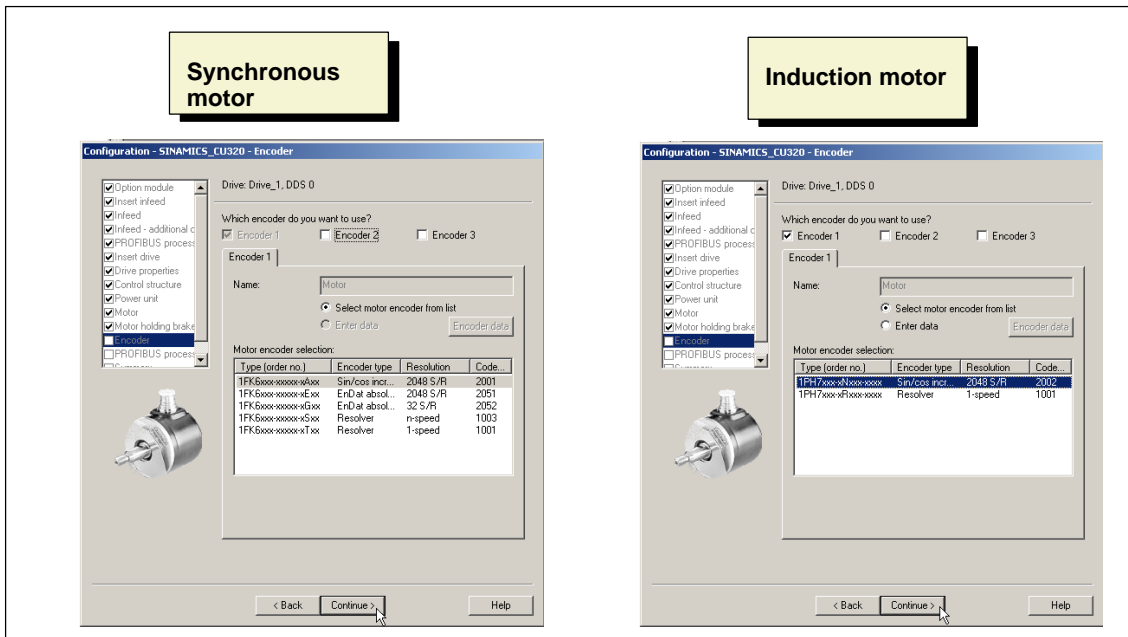

Fig. 3-27 Encoder configuration
21. Select **Without holding brake** and click on **Continue >** to select the encoder fitted to the motor (see Fig. 3-27).